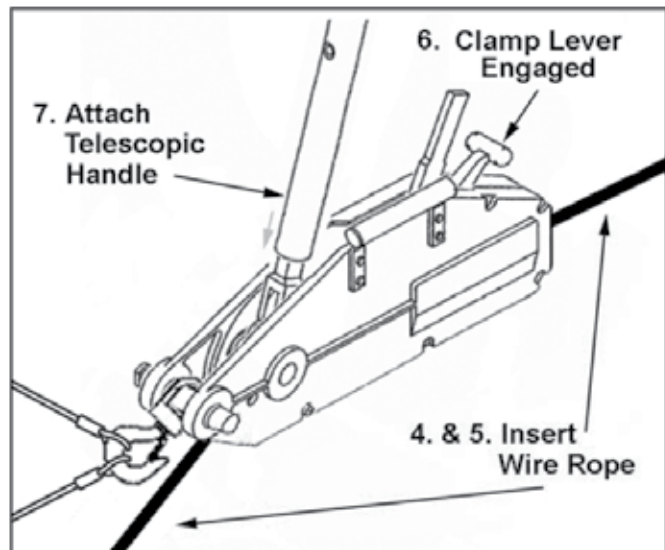

FIGURE 2
5. While keeping the wire rope taut, push down on the clamp lever and allow it to spring back to its natural position. This will engage the wire rope within the puller. See Figure 2.